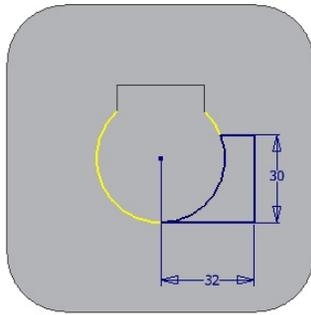

Figure 7-69 Sketch of the second rectangular feature
5. Similarly, create the sketch of the second rectangular feature and extrude it to a distance of 57 mm, refer to Figures 7-69 and 7-70.